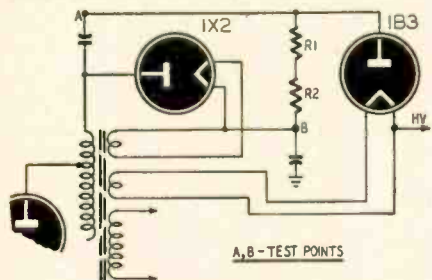

Fig. 4—Doubler-type high-voltage circuit in Philco 52T2256 receiver.
*In a Philco 52T2256 there is a bluish glow around resistor R1 (Fig. 4). This condition prevails when the brightness control is only slightly advanced, and when the control is advanced fully the resistor arcs over to the envelope of the 1B3 or to the cage. With the high-voltage probe connected to test point A, I get a reading of 5,000 volts with the brightness turned down. This drops to zero when the brightness control is advanced. The reading at point B is 11,000 volts. I have tried changing the high-voltage rectifier, the damper*